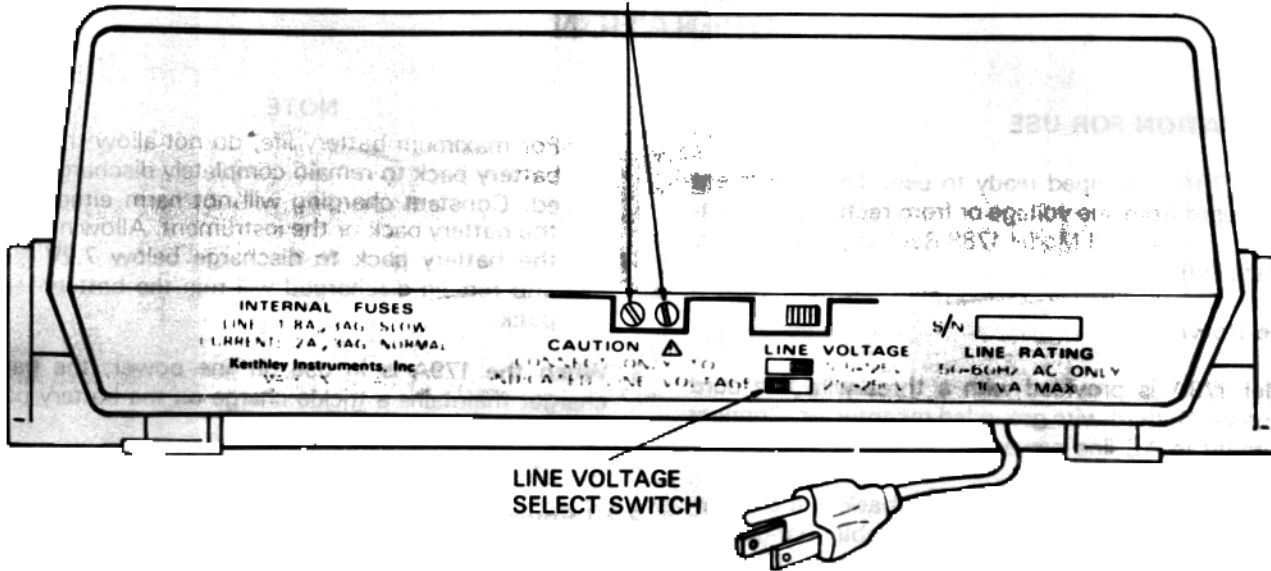

Figure 2-1. Rear View Showing Line Switch
1. Set the LINE VOLTAGE switch on the back of the instrument to correspond to line voltage available. Ranges are 105 to 125 volts and 210 to 250 volts AC as shown in Figure 2-1.